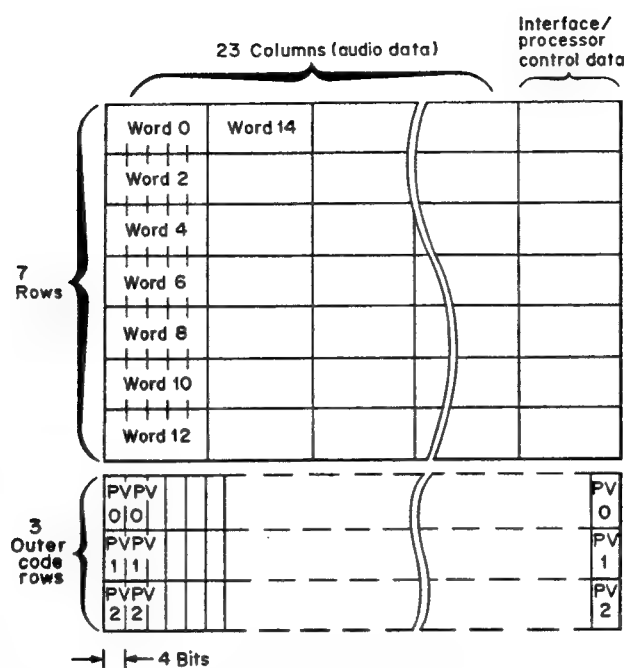

Fig. 3-8-12. Audio Product Block Layout (Even samples/AE-06 Board)
As shown in Fig. 3-8-12, the audio product block is composed of the audio data, addition data and user data. On the AE-06 board, data readout from audio data memory IC28, addition data memory ICJ2 and user data memory ICD30 is controlled by ROM ICG23, G25, J20 and J22, and the data are supplied to the encoder in sequence from the outer code block at the left side of Fig. 3-8-12. The data of 8 code blocks (4 channels \times 2 blocks) are input in the following sequence: CH1 (EVEN) \rightarrow CH2 (E) ... CH4 (E) \rightarrow CH1 (ODD) \rightarrow CH2 (O) ... CH4 (O) \rightarrow CH1 (E) \rightarrow ...
As shown in Fig. 3-8-12 (refer to the AE-06 board in Section 4-3-8), the audio product block is composed of the audio data, the addition data which controls the audio data, and the user data. For a detailed description of the addition data, refer to the AE-06 board in Section 4-3-8.